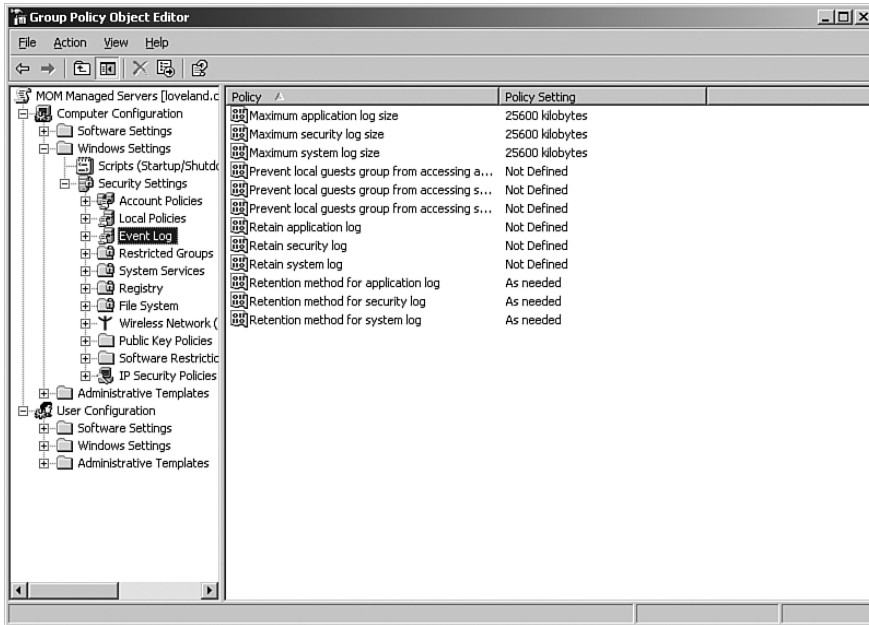

FIGURE 9.8 Sample GPO for event log size and retention method for MOM-managed servers.
If the majority of your systems are integrated with Active Directory, a more effective approach to changing these configurations might be by creating a GPO to maintain these settings. The recommended approach is to move all servers (do *not* move the domain controllers) into an organizational unit (OU) and apply the GPO to that OU. Figure 9.8 shows an example of how this GPO might be configured.